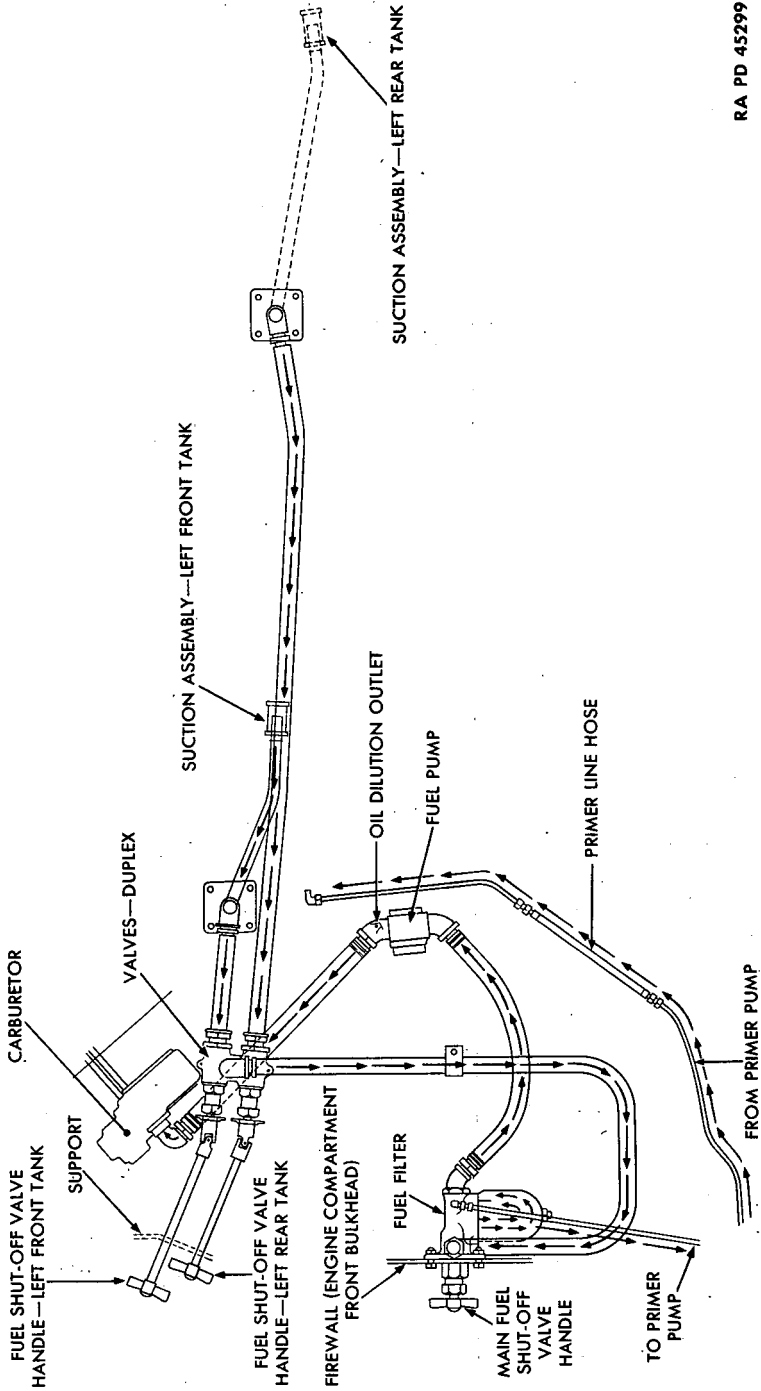

Figure 23—Fuel System
b. **Fuel Lines** (fig. 23).
(1) From either of the four fuel tanks, fuel goes to a collector or header line. From there it is drawn through the fuel filter and up into the engine fuel pump located on the right side of the engine beneath the right junction box. From the fuel pump it is forced to the carburetor.
c. **Fuel Shut-off Valves** (figs. 23, 24 and 25). Five fuel shut-off valves are provided, one for each tank and one main shut-off valve at the fuel filter. Shut-off valves for the left front and left rear tanks project out into the left rear of the driving compartment; those for the right front and right rear tanks project out into the right rear of the driving compartment. The main shut-off valve handle projects through the lower right center of the engine compartment front bulkhead and into the driving compartment. Turn fuel shut-off valve clockwise to shut off the fuel supply.